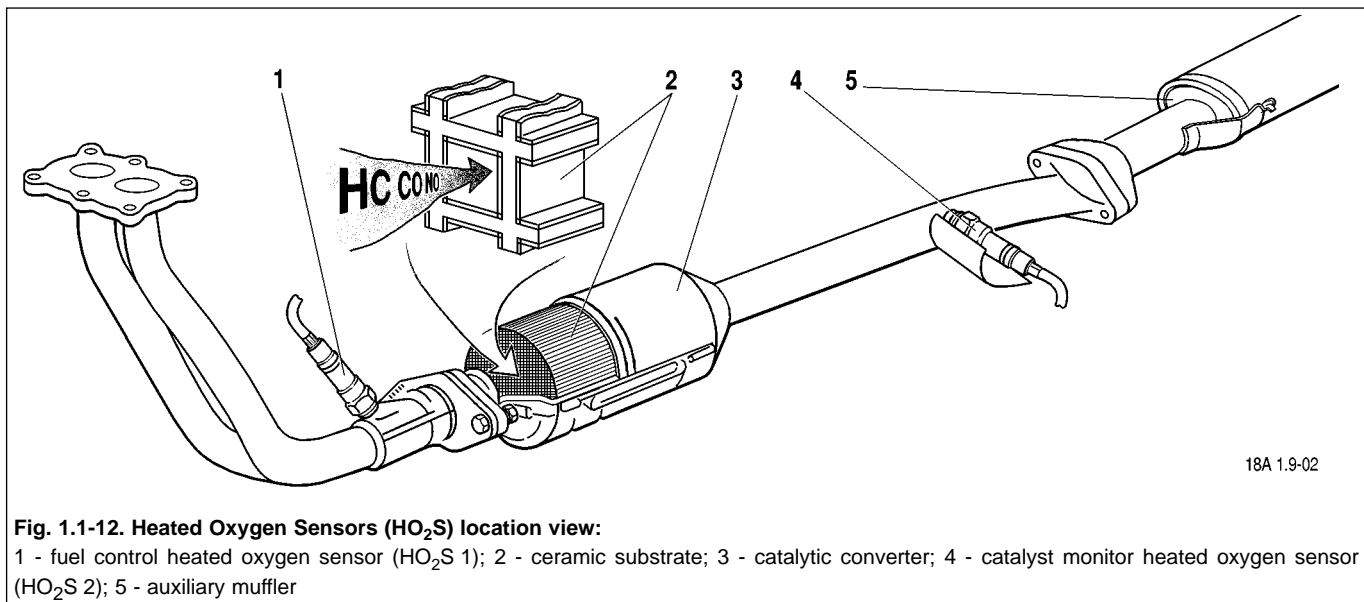
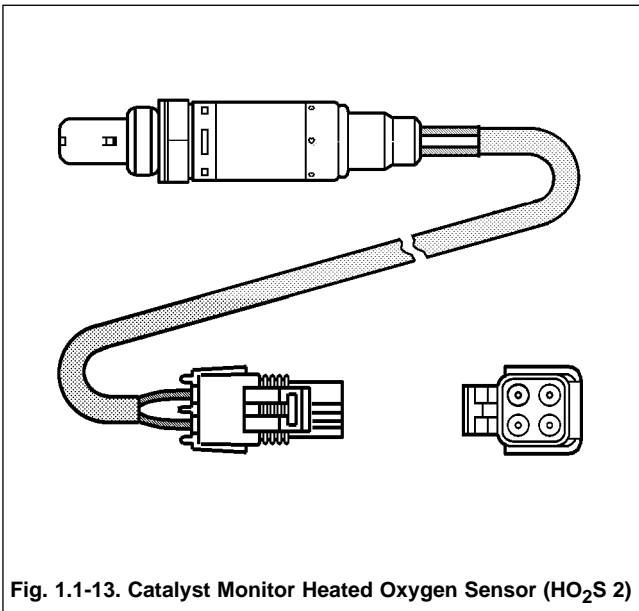

Fig. 1.1-12. Heated Oxygen Sensors (HO₂S) location view:
Fig. 1.1-13. Catalyst Monitor Heated Oxygen Sensor (HO₂S 2)
The HO₂S 1 is mounted in the exhaust manifold (Fig. 1.1-12) before (pre-) the catalytic converter with its sensitive tip in the exhaust stream. The HO₂S 1 generates voltage varying from 50 mV to 900 mV. This output signal depends on the oxygen content in the exhaust gas and on the HO₂S 1 temperature.
To control emissions of Hydrocarbons (HC), Carbon Monoxide (CO), and Oxides of Nitrogen (NO_x), a catalytic converter is used (Refer to Section 1.10). The catalyst within the converter promotes a chemical reaction which oxidizes the HC and CO present in the exhaust gas, converting them into harmless water vapor and carbon dioxide. The catalyst also reduces NO_x, converting it to nitrogen. The ECM has the ability to monitor this process using the catalyst monitor heated oxygen sensor (Fig. 1.1-13) installed after (post-) the catalytic converter (Fig. 1.1-12).